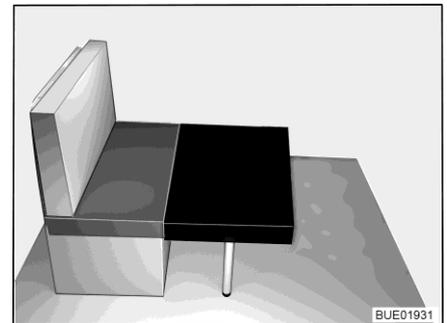

Fig. 62 Conversion (1)
- Place the small additional cushion onto the table in front of the seat cushion of the bench (refer to Fig. 62).